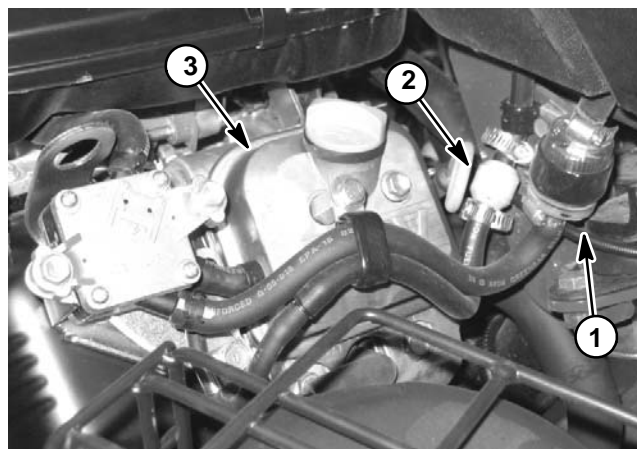

Figure 16
- A. On Greensmaster 3300 machines, disconnect hoses from fuel filter and check valve that are located next to rear cylinder head (Fig. 16). Also, remove cable tie that secures hose from carbon cannister to rear frame tube under tank mount plate.
7. Remove four (4) screws that secure tank mount plate to frame.